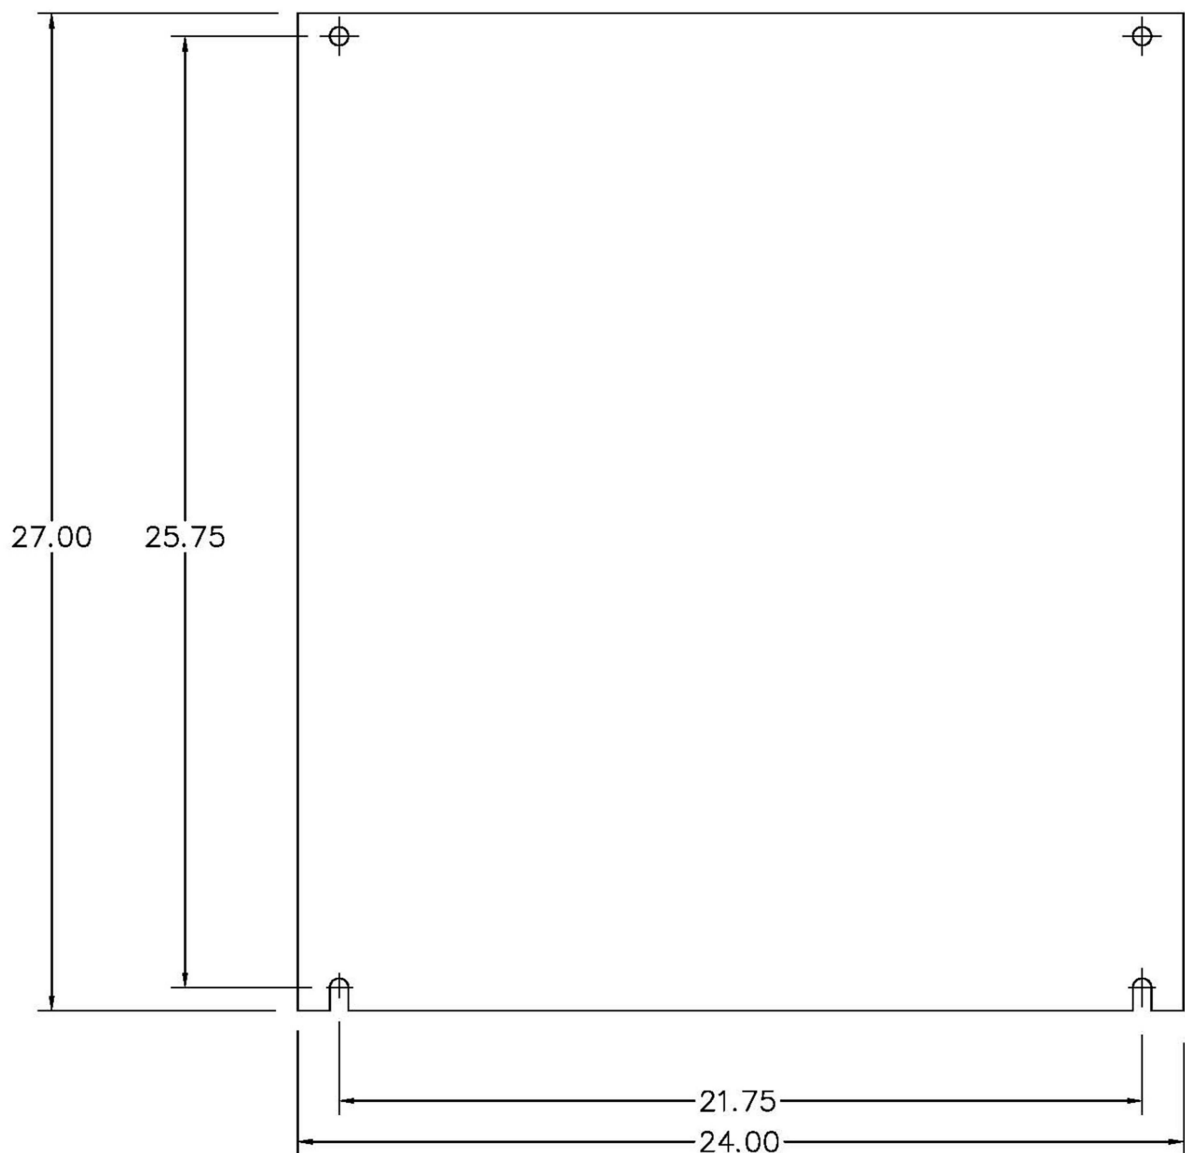

Figure 3: Standard Panel Dimensions (Not to scale)
3.8 Dimensions (see Figure 3&4)